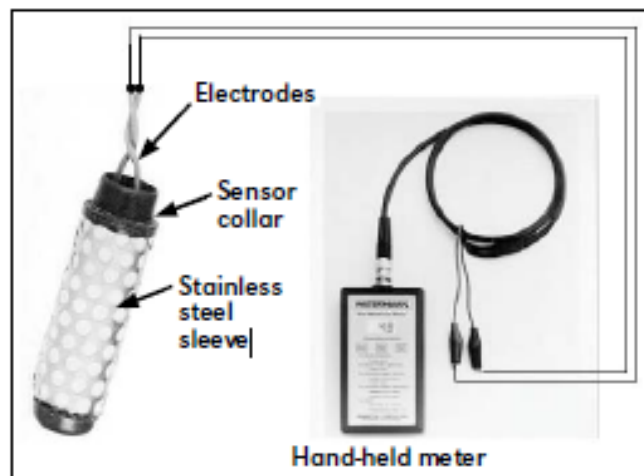

Figure 5-3. Granular matrix sensor and meter.
**Granular matrix sensors** are an indirect method of measuring soil water tension. The sensor consists of two corrosion resistant electrodes embedded in a porous material, surrounded by a synthetic membrane and a protective stainless steel mesh (Figure 5-3).